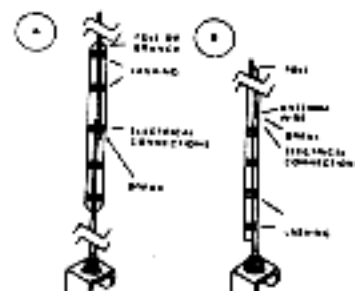

Figure 7-1. Emergency repair of broken whip antenna.
a. Repair Techniques. When a whip antenna is broken into two sections, the portion of the antenna that is broken off can be connected to the portion attached to the base by joining the two sections as shown in figure 7-1. Use the method in figure 7-1(a) when both parts of the whip are available and usable. Use the method in figure 7-1(b) when the whip portion is so badly broken it cannot be used or it is lost. To restore the antenna to its original length, add a piece of wire that is the same length as the missing whip, then lash the pole support securely to both sections of the antenna.